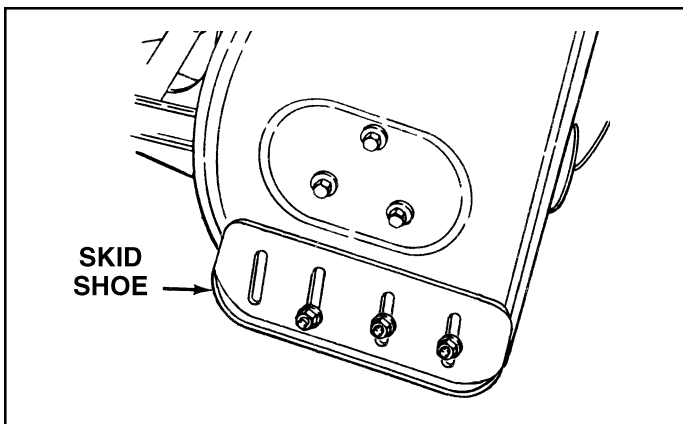

FIGURE 33
(Refer to figures 33 and 34 on page 19.)
2. Raise the snow thrower off the ground and place a block under each end of the scraper plate. Loosen the six hex nuts securing the skid shoes to the housing. Adjust the skid shoes up or down and retighten the nuts securely. Adjust both skid shoes to the same height to keep the housing and the scraper plate level. See figure 33.